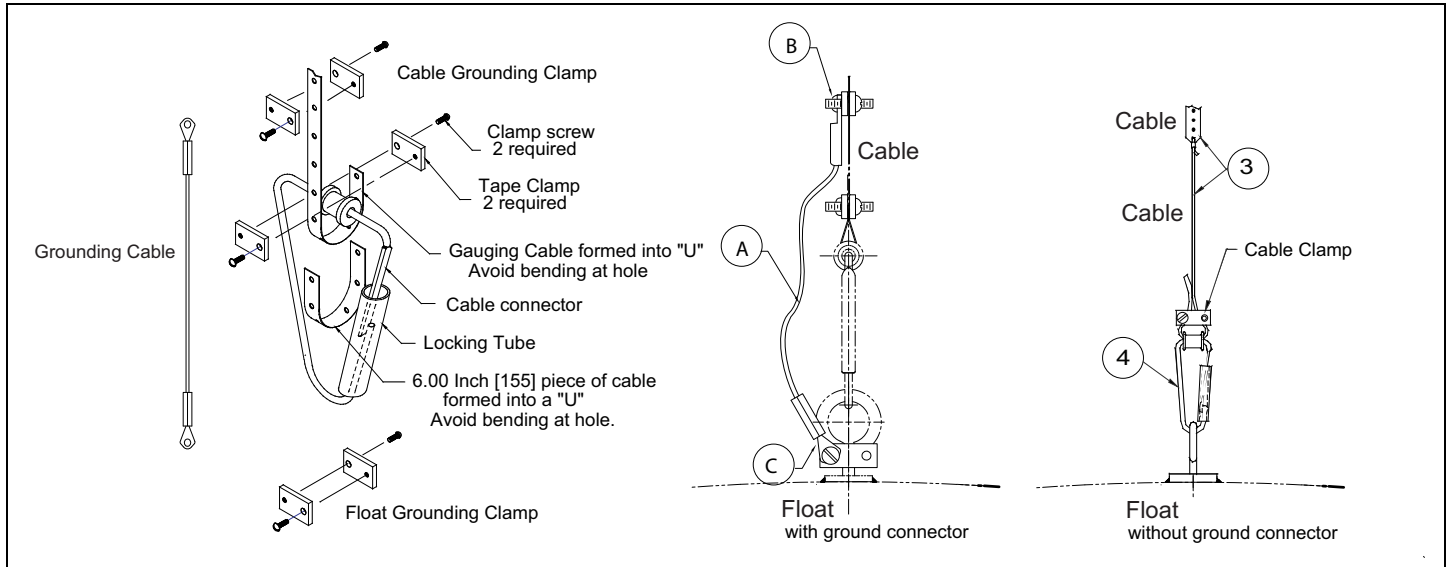

Figure 26: Tape Clamp Assembly with Grounding Cable
6. Attach the cable to the float with the furnished fastener and ground cable (Figure 26).
6. Install the gauge tape and 'U' piece to the tape connector with the tape clamps and screws provided (Figure 26 on page 31).
8. Connect the grounding cable (A) to the tape connector (point B).
10. Connect the grounding cable (A) to the float (point C).